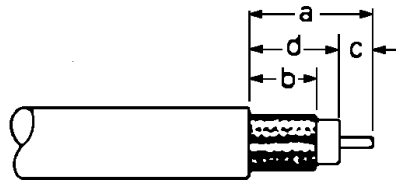

Figure 6—Stripping the Coax Cable Jacket
After the antenna has been mounted and the cable has been cut to length, install the supplied BNC connector at the other end (refer to Figures 6, 7 and 8 on pages 107 and 108). A satisfactory crimp for this connector may be made with a commonly available, high-quality crimping tool designed for use with BNC connectors.
- 1) Strip cable jacket to the following dimensions (in inches), as illustrated in Figure 6:  $a=0.57$ ,  $b=0.34$ ,  $c=0.14$ ,  $d=0.43$ . Do not nick the center conductor.